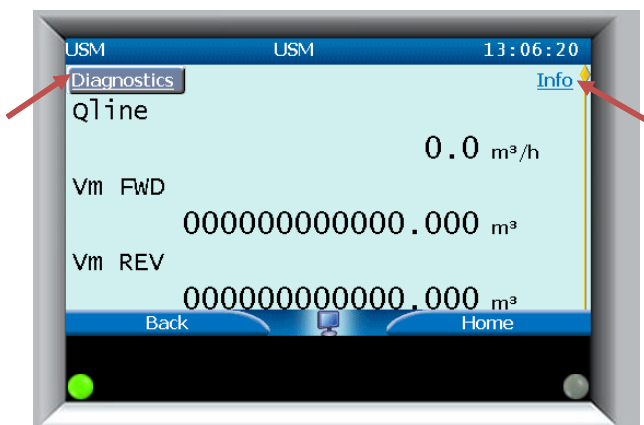

Figure 7-3: Basic Display/USM
The basic display is shown below in Figure 7-3 and displays the following values:
Along the top of the basic display page you will see the sub-menus **Diagnostics** and **Info** marked with red arrows in Figure 7-3. You have to scroll to the top of the page to view or select these sub-menus. For more information on Diagnostics, as well as the two submenus from this screen, please see ⇒ Chapters 7.5 Diagnostics (p.41) and 7.6 Info (p.47), respectively.
Pressing the **Home** button from the **Basic Display** (as seen in Figure 7-3) will bring you to a screen as depicted below in Figure 7-4.
- ▶ From the **Basic Display** screen, scroll to the top of the page and highlight the **Diagnostics** field in the top left hand corner. (See Figure 7-3)